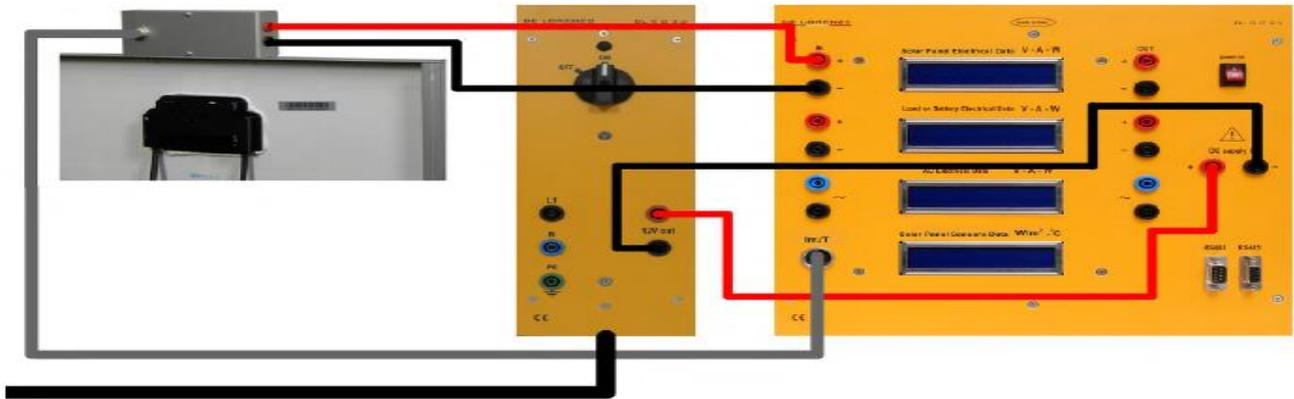

Fig. 3
1. Connect the module according to Fig. 3.
1. Connect the module according to the Fig. 3.
1. Connect the module according to Fig.3.